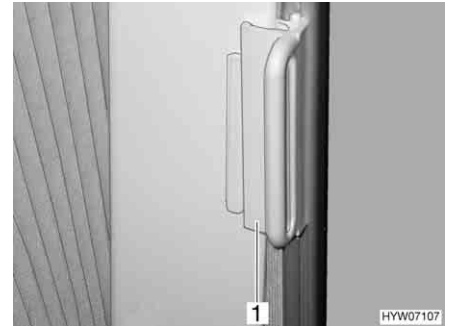

Fig. 25 Lock for Roman shade
- Push the handle (Fig. 25,1) onto the cap. The Roman shade is secured.